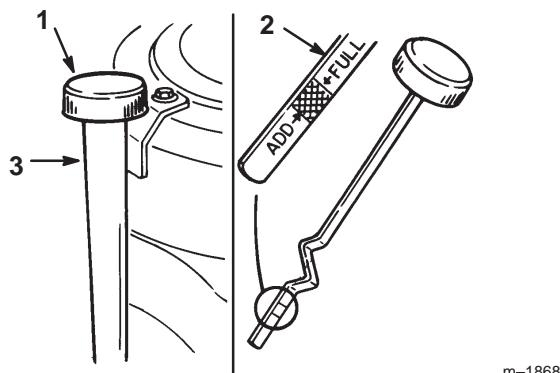

Figure 14
3. Clean around the oil dipstick (Fig. 14) so that dirt cannot fall into the filler hole and damage the engine.
4. Unscrew the oil dipstick and wipe the metal end clean (Fig. 14).
5. Screw the oil dipstick fully onto the filler tube (Fig. 14). Unscrew the dipstick again and look at the metal end. If the oil level is low, slowly pour only enough oil into the filler tube to raise the level to the Full mark on the dipstick.
7. Slowly pour approximately 80% of the specified amount of oil into the filler tube (Fig. 14). Check the oil level; refer to Checking the Oil Level, page 20, steps 4-5.